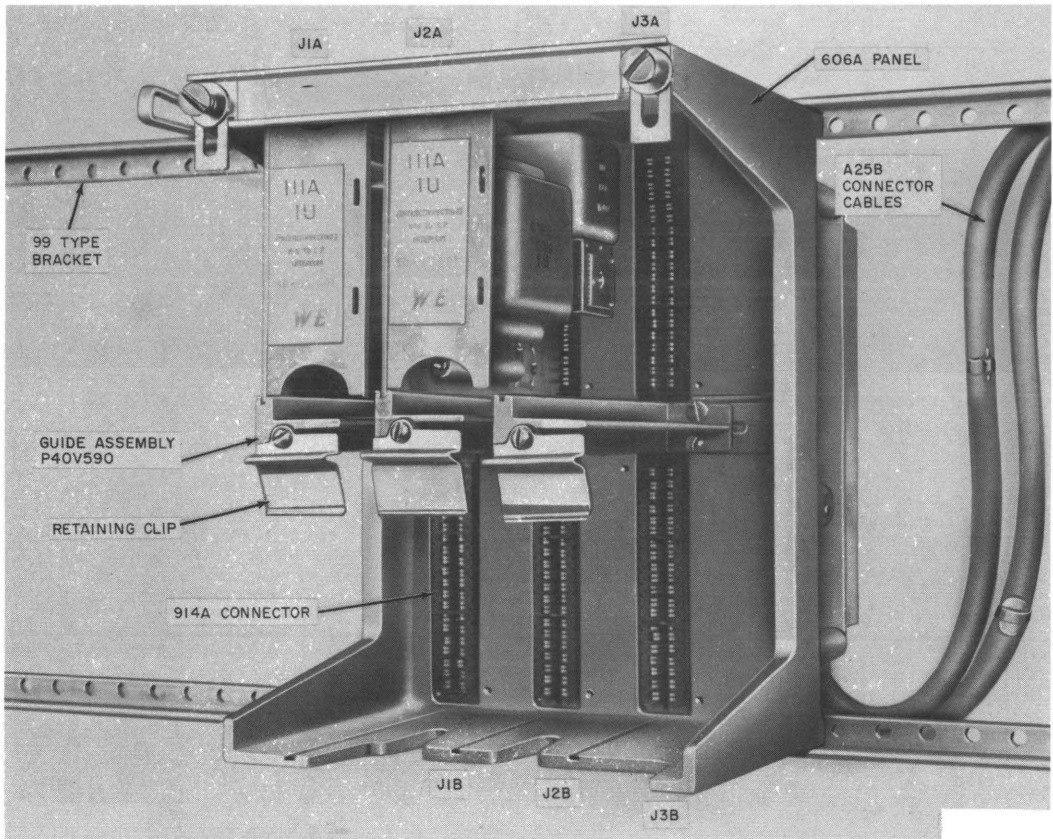

Fig. 4—606A Panel With 111A Interconnecting Unit
◆ *For 606A Panel, Fig. 4 and 5*
**3.14** Two A25B connector cables are connected to the P1 and P3 plugs on the rear of the 606A panel. P1 connects to the upper three 111A IUs and P3 connects to the three lower 111A IUs as shown in Fig. 4.